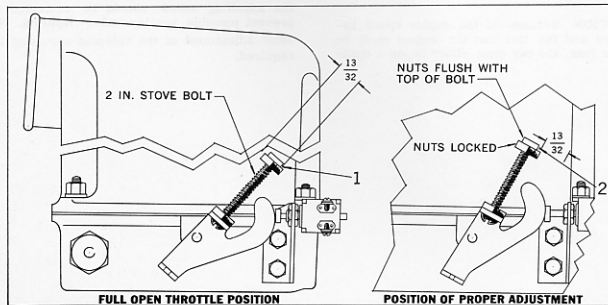

FIG. 20 KICK-DOWN SWITCH ADJUSTMENT
1. Install a 2 inch bolt in the throttle bracket as shown in Figure 20.